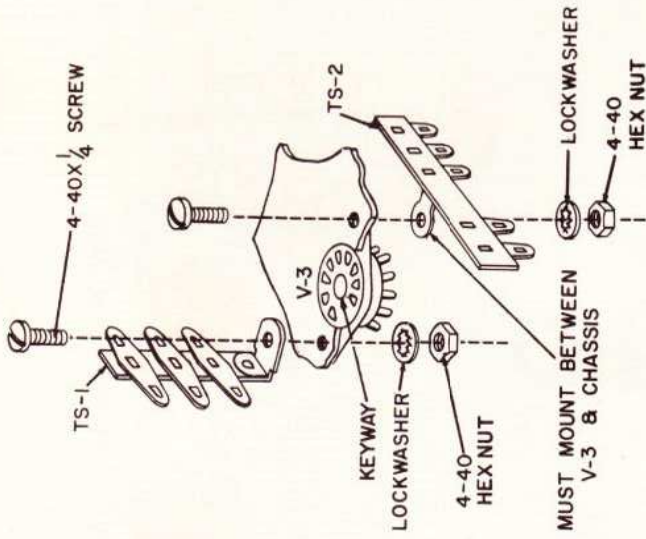

FIGURE 4
- ✓ 9-pin tube socket for V3; TS-1, 3-terminal strip; TS-2, 5-terminal strip. Position the tube socket with the keyway as shown. Position TS-2 between the tube socket and chassis. Fasten these parts with a 4-40 × 1/4" screw, lockwasher, and nut. See Figure 4. Mount TS-1 to the top of the chassis. Insert a 4-40 × 1/4" screw through the terminal strip and other side of tube socket. Fasten with a #4 lockwasher and nut.